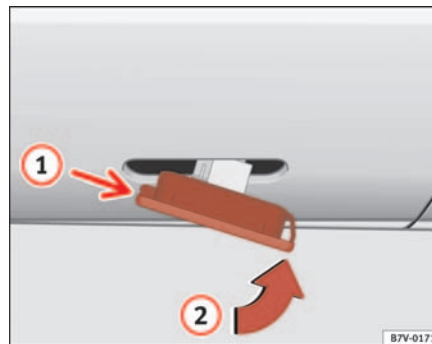

Fig. 164 Side turn indicator
- First fit the turn signal in the opening of the chassis, securing the tabs **1** ⇒ page 244, fig. 164 and then, fit the lamp as shown by the arrow **2**. ■